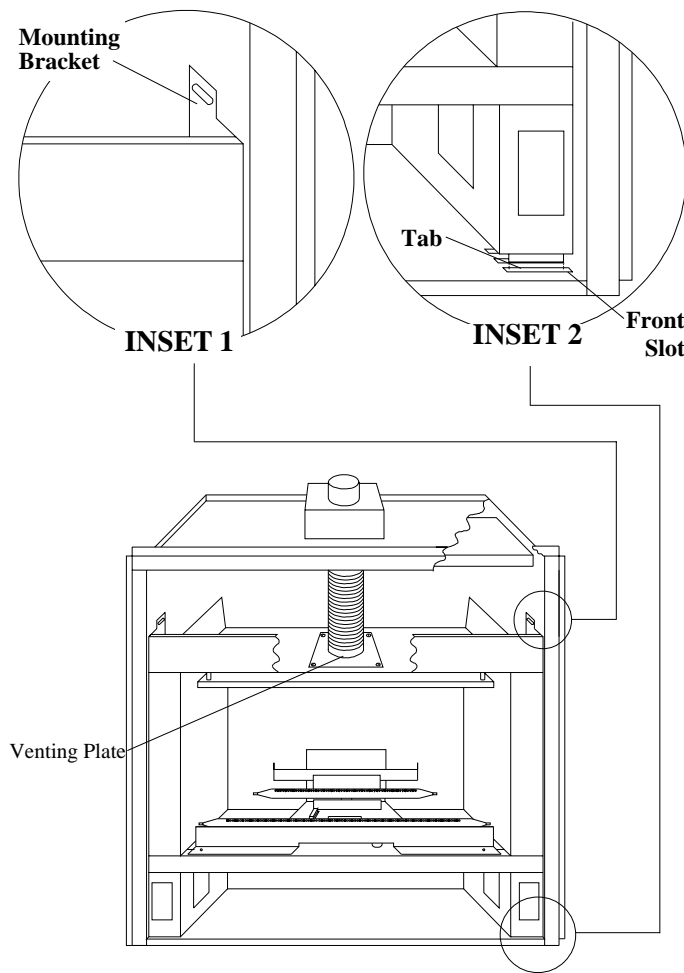

Figure 9. ME34-BV insert.
2. Remove the fresh air flex from the collars on the shell. *See Figure 9. Important: Be careful not to damage the fresh air flex during removal or storage.*